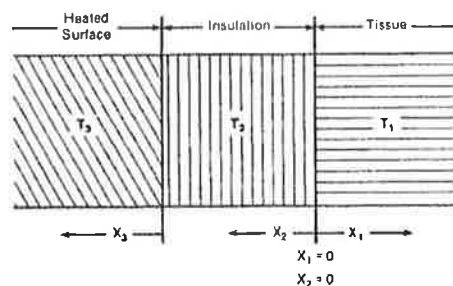

FIG. X1.3 Schematic of Heat Transfer Model
X1.2.3.10 Several years after his initial work, Wu (5) proposed a third model composed of three layers (see Fig. X1.3) so that the properties of the surface layer and the substrate could be different. This model describes the identical case to that of an insulation covered by a jacket material. The equations Wu developed are a basis for establishing an extrapolation of Moritz's work to real insulated systems.